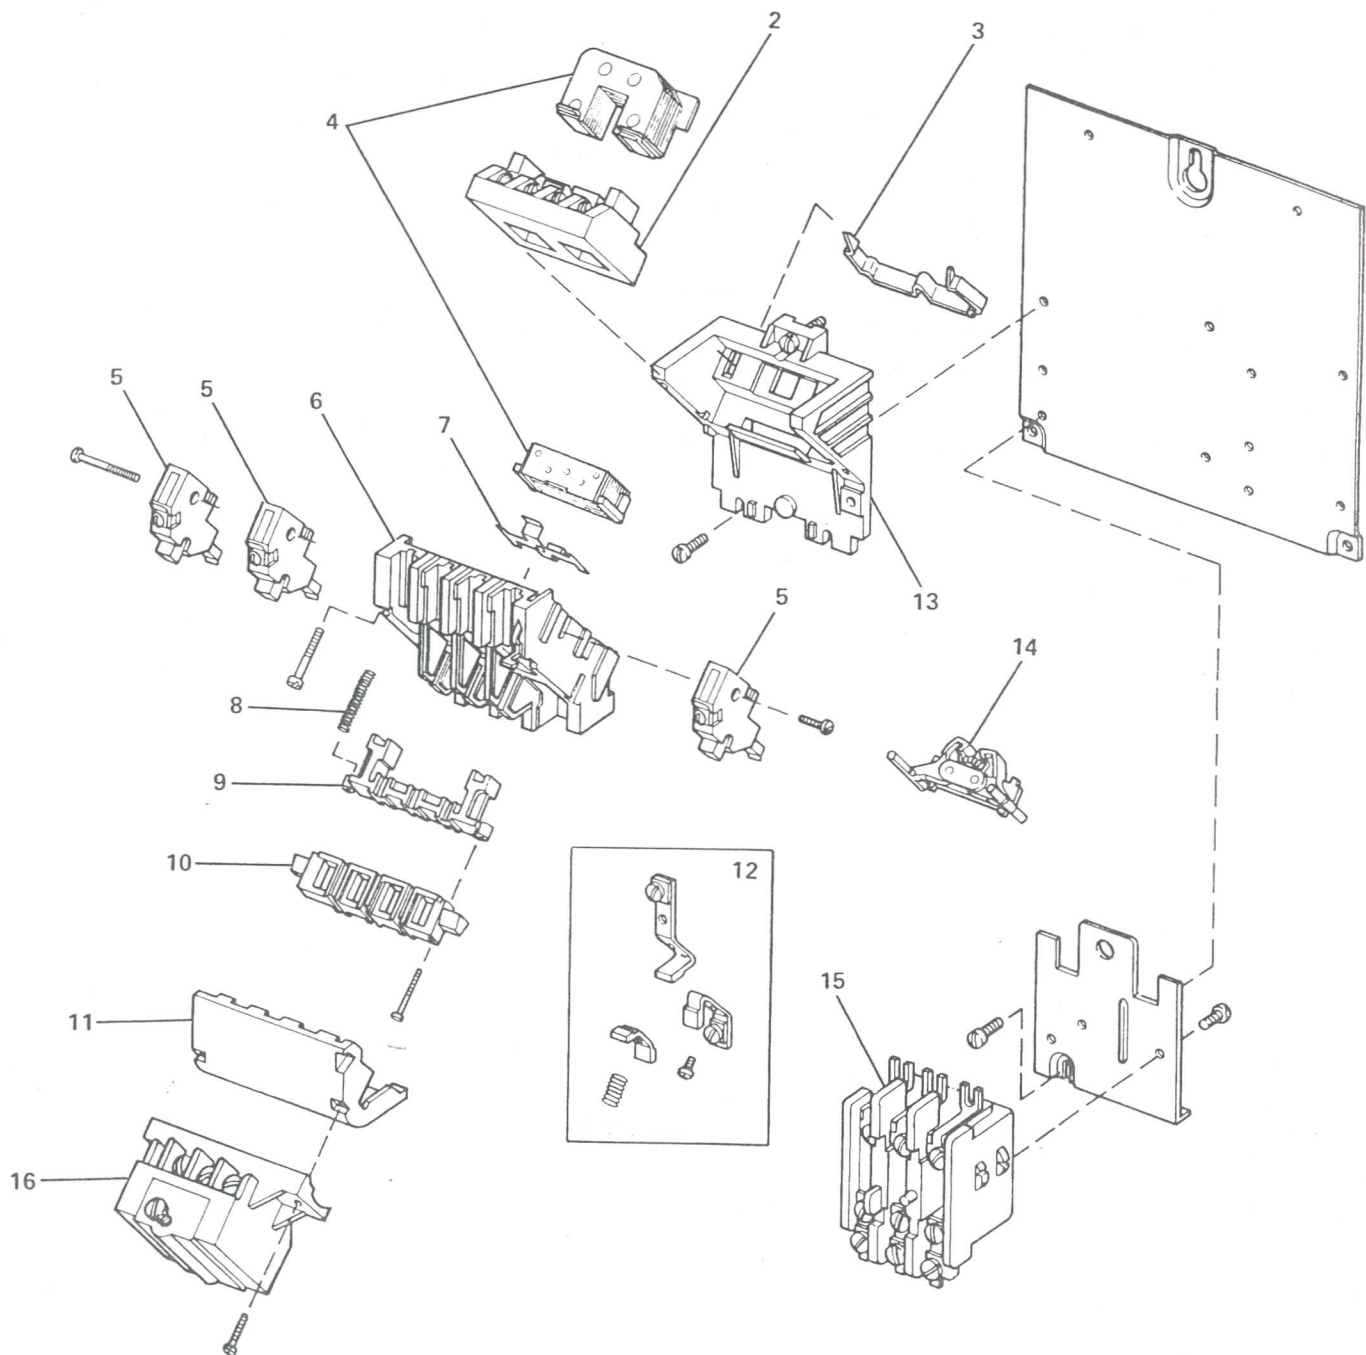
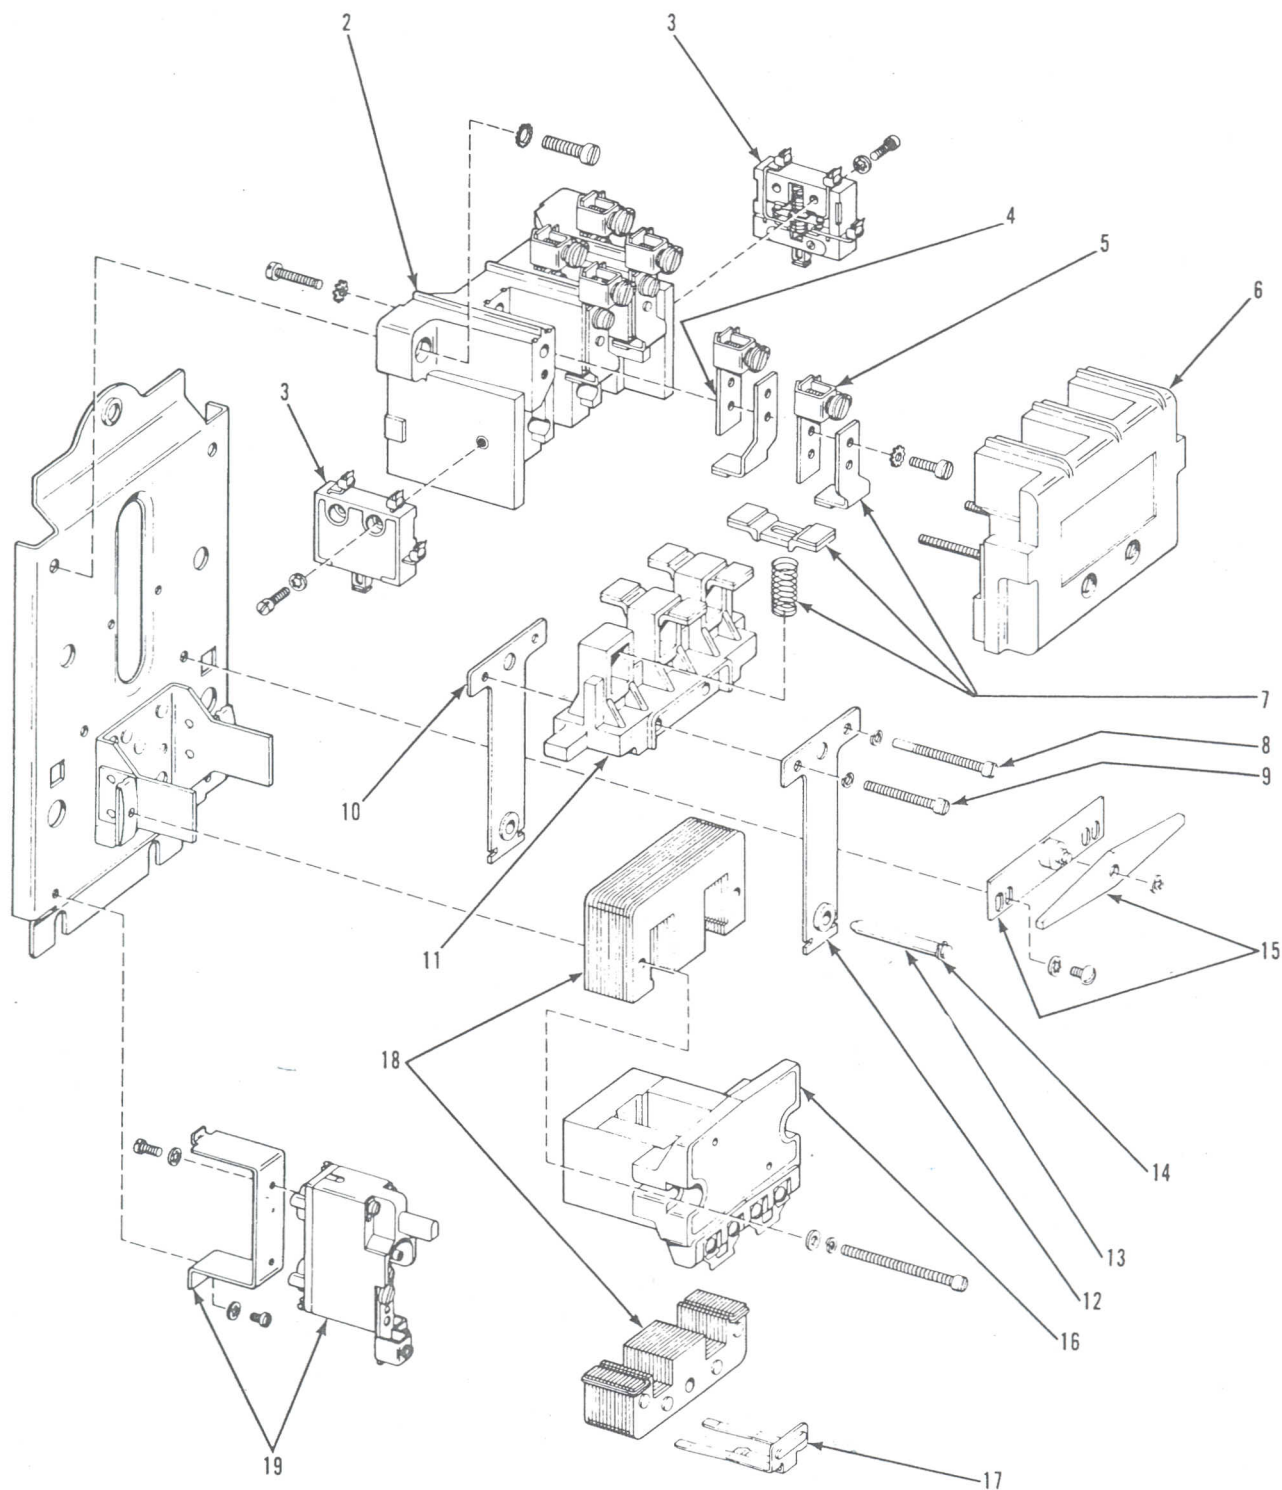

Figure 5-33. P&amp;H Innova Reversing Contactor
Figure 5-34. Older Type P&H Reversing Contactor
**P&H CONTACTORS.** Two types of P&H contactors are in use in hoist control systems. The newer type ("Innova") is shown in Figure 5-33. The older type is shown in Figure 5-34. Contact replacement and coil replacement procedures for the "Innova" type are covered in steps 1 and 2, below. Similar procedures for the older type are covered in steps 3 and 4. Proceed as follows:
- b. Remove overload block (15, Figure 5-33) and its mounting plate.
- c. Unclip and remove cover (11).
- d. Remove the two screws securing cross arm (10) to base (9).
- e. Remove the movable contacts and springs from cross arm (10). Carefully note the positions of the movable contacts and spring prior to removal.
- f. Disconnect the leads from the stationary contacts and remove the stationary contacts from contact board (6).
- i. Install cover (11) and overload block (15), with its mounting plate.
- b. Push the ears of clip (3, Figure 5-33) outward. Coil (2) and the armature will release for easy removal.
- c. Insert the armature in the new coil and reinstall the coil. Push the coil in against clip (3) until the clip engages the coil firmly.
3. Replace contacts in the other style of reversing contactor as follows (see Figure 5-34):
- b. Loosen the two attaching screws and remove contact board cover (6).
- d. With a screwdriver, carefully lift the movable contact springs from crossarm (11). Then, remove the movable
f. Install contact board cover (6).
4. Replace the coil on the other style reversing contactor as follows (see Figure 5-34):
- c. Remove the two screws securing coil (16) and magnetic and armature assembly (18) to the base plate.
- d. Pull retainer clip (17) and separate the coil from the magnet and armature.
- e. Assemble the magnet and armature to the new coil and install retainer clip (17).